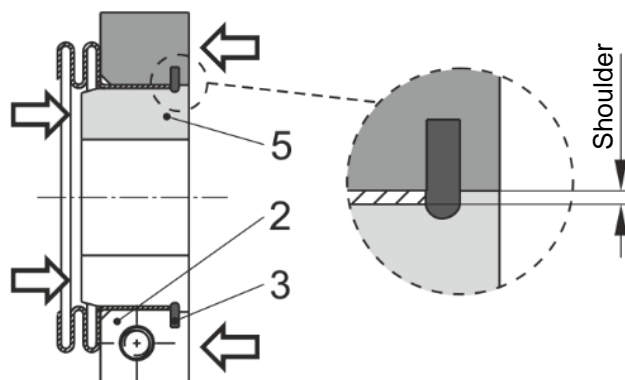

Fig. 4
Due to the shoulder (see Fig. 4), the reducing bushing (5) can be pressed out of the clamping ring (2) only in one direction.